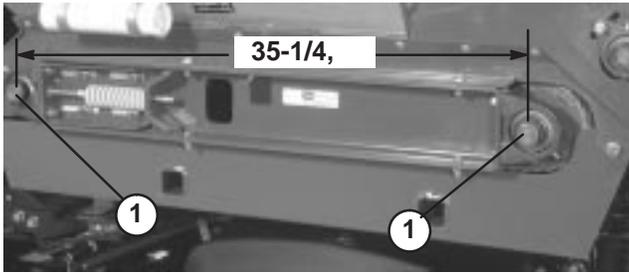

Figure 24
3. Check to insure that the center distance between conveyor belt roller shafts (Fig. 24), on each side of machine, are equal distance (approximately 35-1/4").